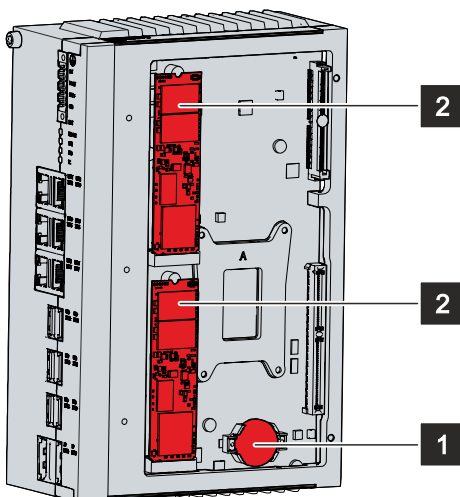

Fig. 20: Battery and storage media
You now have access to the battery (1) and storage medium (2) (see fig. 20).